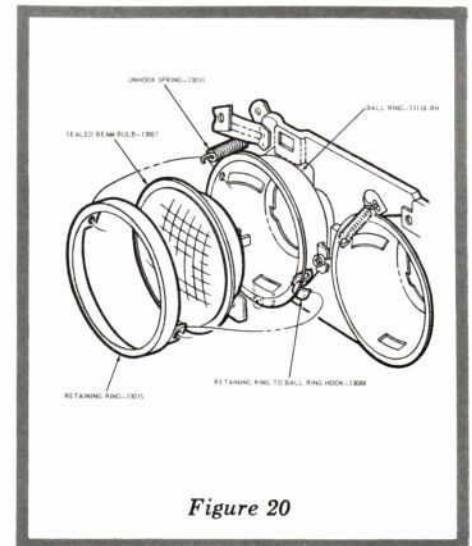

Figure 20
2. Release the unhook spring from the retaining ring and remove the retaining ring as shown in Figure 20 Headlight Assembly.